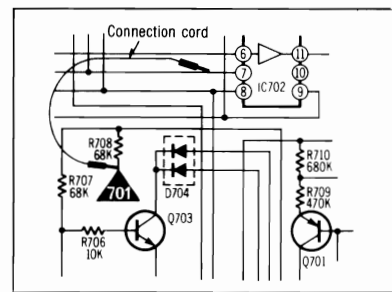

Fig. 19
2. Connect a wire between TP701 and ground terminal (See fig. 19).